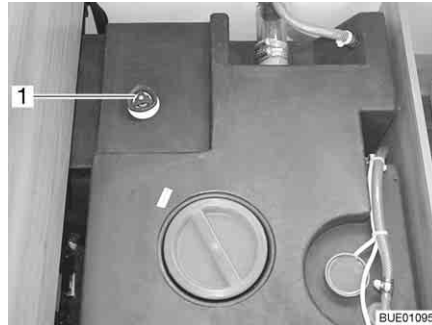

Fig. 231 Water tank with handle
- Turn the handle (Fig. 231, 1) on the water tank in a clockwise direction as far as it will go.
- Turn the handle (Fig. 231, 1) on the water tank in an anticlockwise direction as far as it will go. Excess water will drain away leaving 60 litres in the tank.